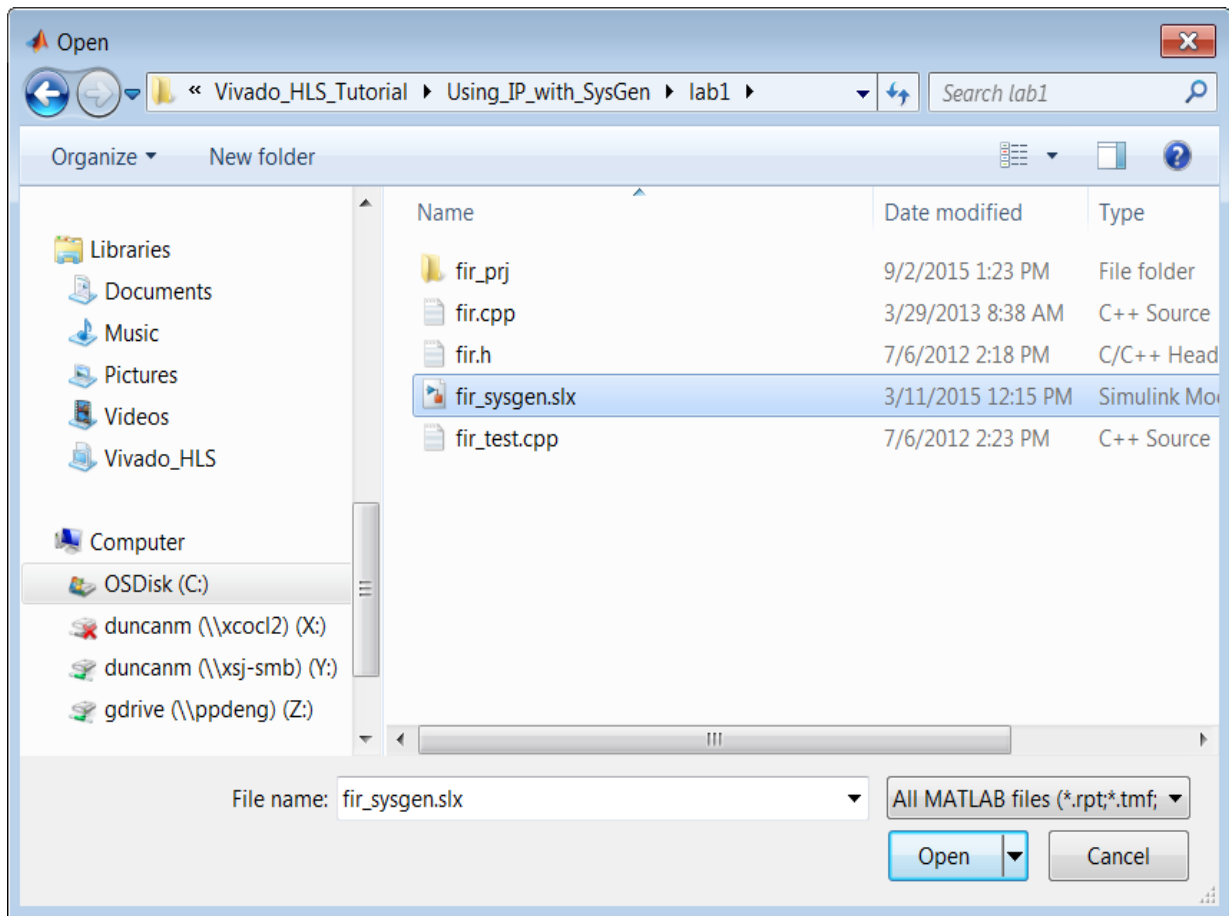

Figure 11-5: Select File **fir_sysgen.slx**
3. Navigate to the tutorial directory `Vivado_HLS_Tutorial\Using_IP_with_SysGen\lab1` and select the file `fir_sysgen.slx`, as shown in Figure 11-5.